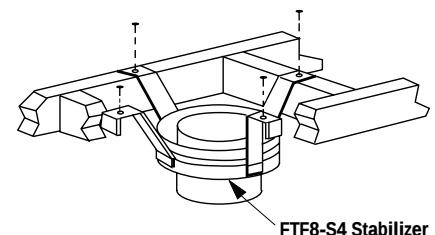

Figure 28
Install the Model FTF8-S4 stabilizer by fitting inner section down into respective section of proceeding flue pipe and locking outer stabilizer section into place over the outer chimney pipe. Position for proper clearance through framed opening and nail straps securely (under tension in "shear") into place on framing. Use 8d nails. Attach successive lengths of chimney pipe directly to stabilizer using same techniques as described in Step 4 (**Figure 28**).
Step 1. Use Offset Chart to determine amount of horizontal offset (A) and height (B) for various chimney section assemblies.
Step 3. Use Elevation Chart as job estimator only. Add necessary firestop spacers and stabilizers as required. Firestop spacers must be used as shown in **Figures 22 and 23** and stabilizers as shown in **Figure 28**.